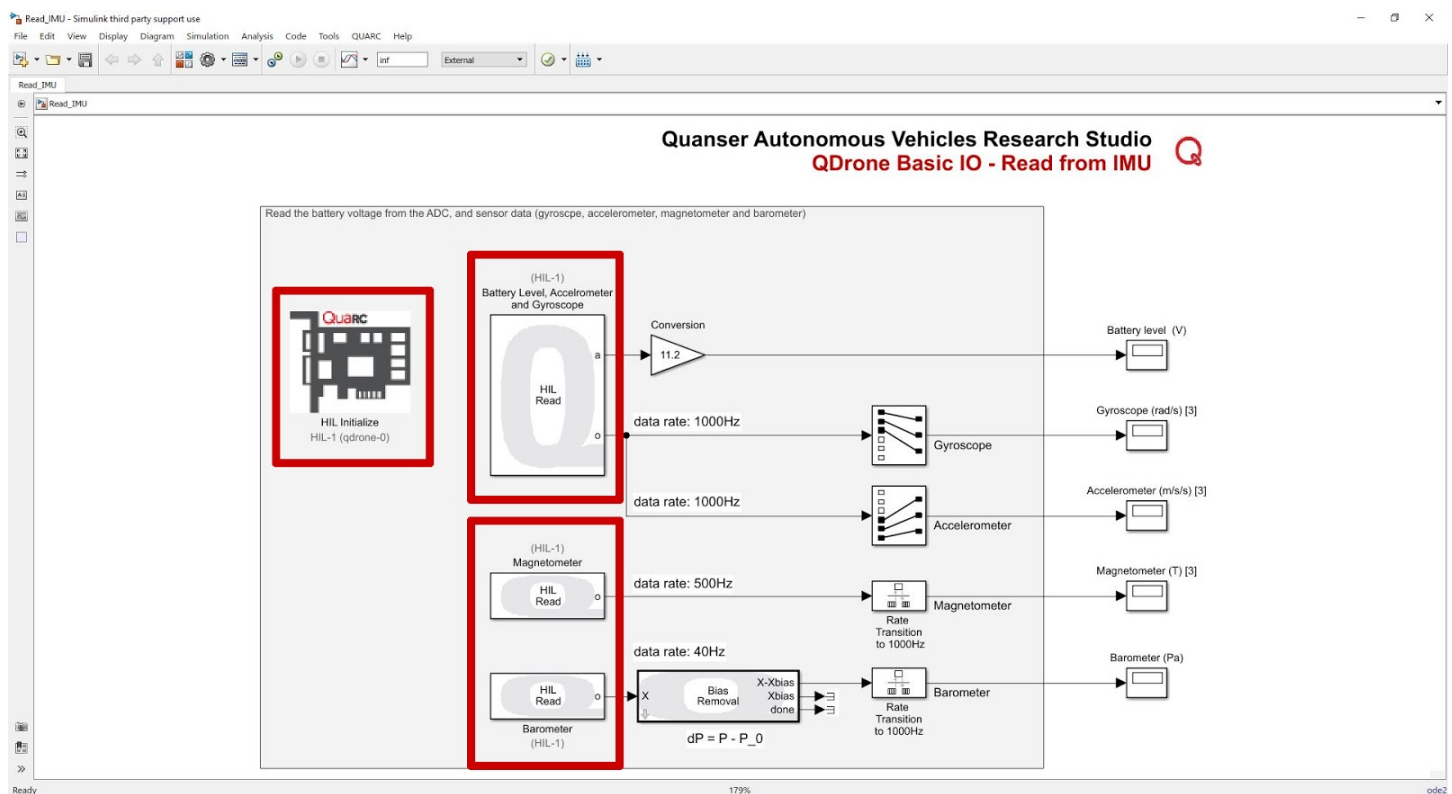

Figure 1: Read_IMU.slx model, highlighting the HIL Initialize and HIL Read blocks
1. Under the Guides and Resources > Basic IO > QDrone > Software folder, open Read_IMU.slx (Figure 1)